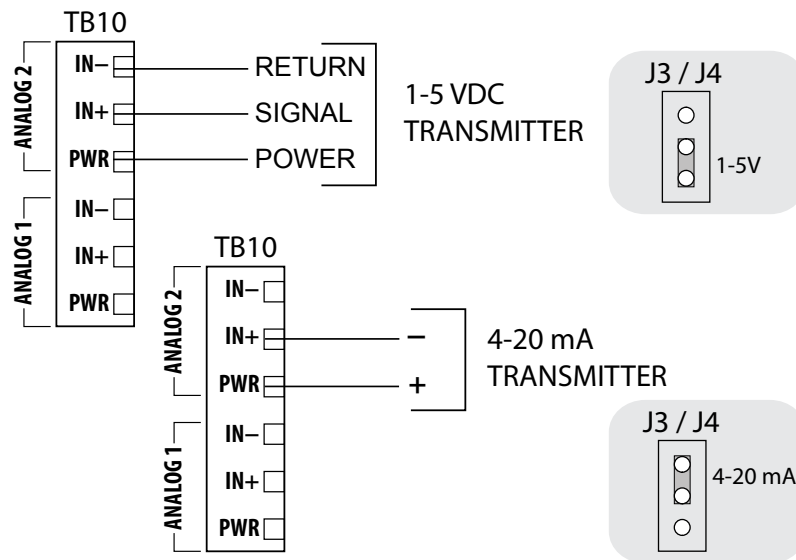

Figure 3.11—0-5 V, 1-5 V and 4-20 mA analog input wiring
7. Connect wiring for analog inputs and pulse inputs/contact inputs, if appropriate. See Figure 3.11, page 57 and Figure 3.12, page 58.
To configure the device for a 0-5V input or a 1-5V input, position jumper J3 or J4 in the lowest position as shown in Figure 3.11. To configure the device for a 4-20 mA input, place the jumper in the top position. For a 4-20 mA input (top position), a 249-ohm resistor provides the shunt resistance for the measurement.